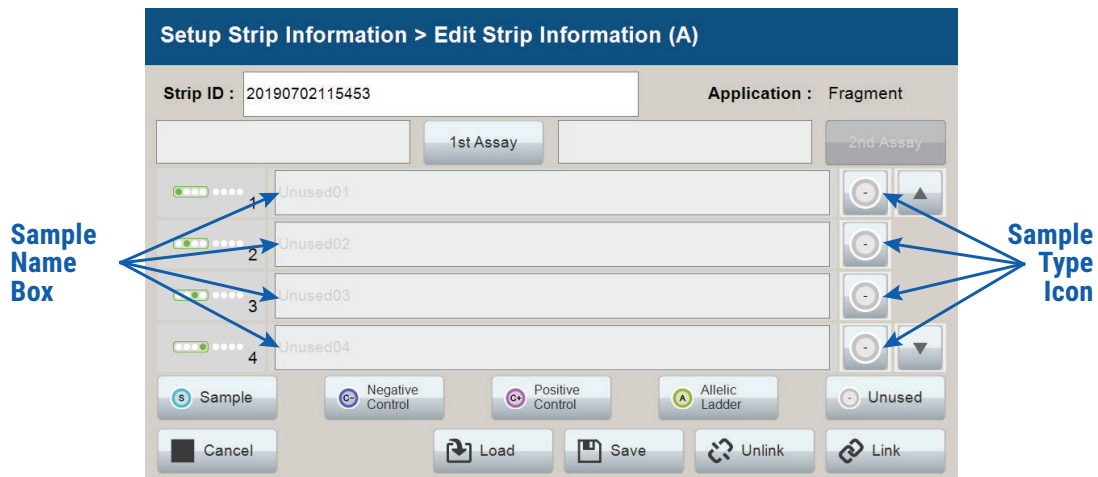

Figure 13. 'Edit Strip Information' screen.
2. Select a lane icon (A, B, C or D) to enter information for that 8-well strip tube. This opens the 'Edit Strip Information' screen for that lane (Figure 13). This screen displays fields for defining the Strip ID, run assay, sample name and sample type for that lane. Each well in the strip is represented along the left side of the screen. The first injection set of the strip (Wells 1–4) is displayed on the screen. You can use the arrows on the right side of the screen to scroll to the second injection set (Wells 5–8).